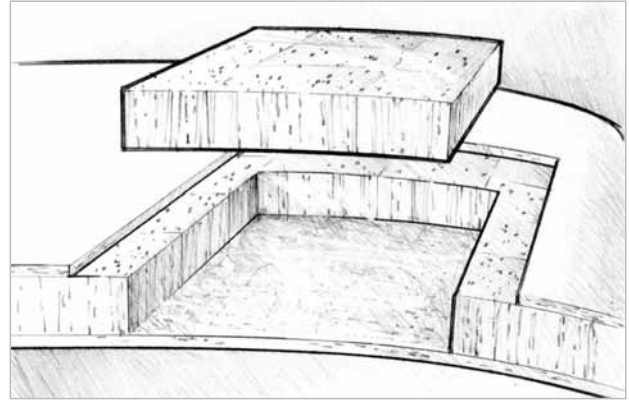

Figure 5-6 Fit a new piece of core material to match the shape, thickness and density of the damaged core material that was removed.
5. Prepare a new piece of core material to match the shape, thickness and density of the core that was removed. Dry fit the piece to be sure the new piece is no higher than the surrounding core (*Figure 5-6*). When replacing damaged core material, try to purchase the same material used by the builder. If that is impossible, locate a material as close as possible to the core's original thickness and density. It is better to have a slightly thinner core material than a thicker one.